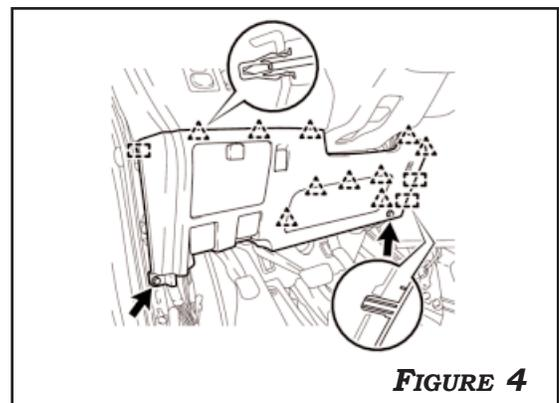

FIGURE 4
4. REMOVE THE (2) **10MM** BOLTS. DISENGAGE THE 10 CLIPS, 3 GUIDES, DISCONNECT CONNECTORS TO REMOVE INSTRUMENT PANEL LOWER FINISH PANEL. **FIGURE 4**